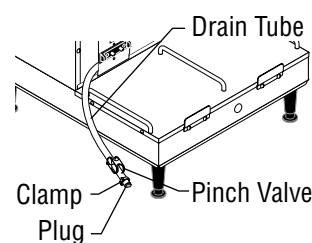

FIG 2
2. Locate the end of the drain tube hose in the base of the brewer and pull it out. (FIG. 2)
3. Remove the clamp and plug from the drain tube and release the pinch valve. (FIG. 2)